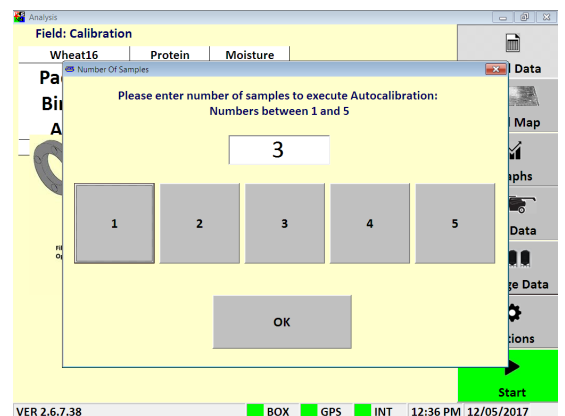

Figure 4.4. Num of samples for Auto-Calibration.
- 4) Enter the number of samples to check (1-5) figure 4.4